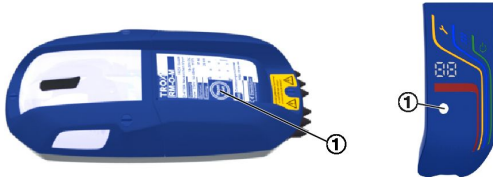

Fig. 20: Test/reset button
- ▶ Press briefly on the smoke detector or on the display module [Test/Reset] (Fig. 20/1).
4. ▶ Press [Test/Reset] (Fig. 20/1) on the smoke detector or the display module.
- ▶ Press [Test/Reset] (Fig. 20/1) on the smoke detector or on the display module.